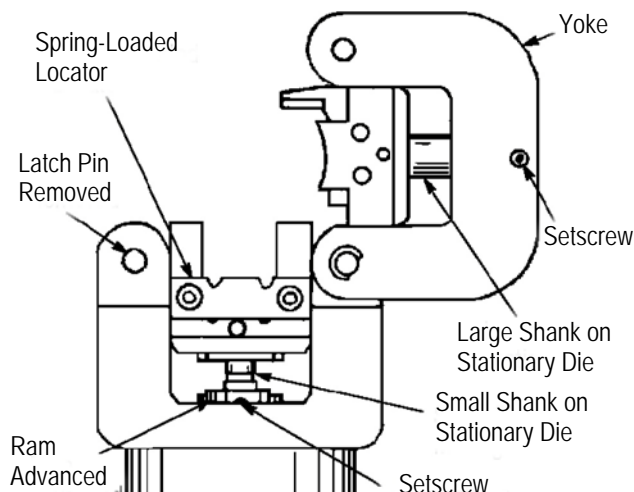

Figure 2
2. Remove latch pin on head, then open yoke. See Figure 2.
5. Insert stationary die (with large shank) into yoke as shown in Figure 2. Tighten setscrew.
7. Loosen setscrew in ram and insert moving die (with small shank) into ram well as shown in Figure 2. Tighten setscrew.